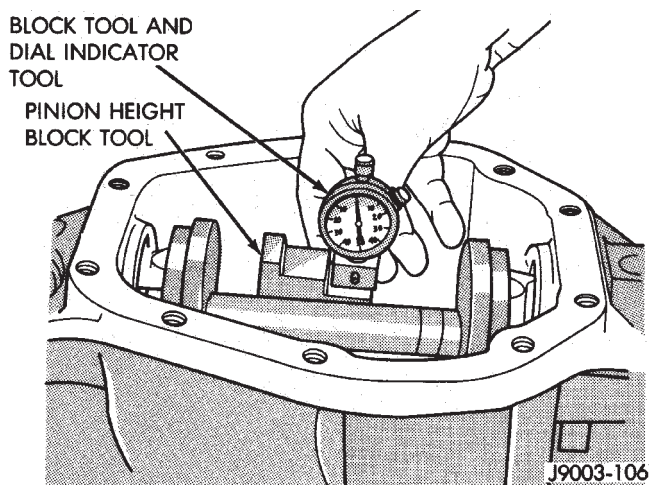

Fig. 50 Pinion Gear Depth Measurement
(4) Firmly place Scooter Block and Dial Indicator D-115 on the **lowest step** of pinion height block tool (Fig. 50). Zero the dial indicator pointer.
(5) Move the gauge block toward the arbor until the indicator plunger contacts the arbor tool (Fig. 50). Slide the gauge block across the arbor while observing indicator. Record the longest travel distance, whether inward (-) or outward (+), indicated by the pointer.